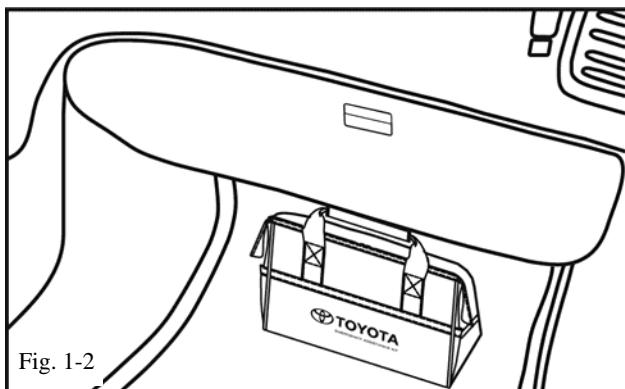

Fig. 1-2
- (1) Remove EAK from package.
- (2) Place EAK on the right front floor of vehicle. (Fig. 1-2)